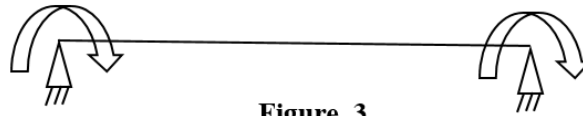

Figure. 3
- b) Derive Flexibility matrix for the following beam element in Figure.3.